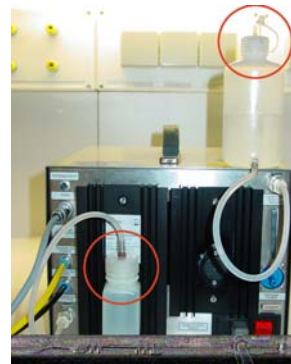

Fig.3: Peripheral accessories
Note: loosen taps of both to enable ventilation (see figure 3).
- Switch on the CPC (red wipe switch at the rear panel – see fig.3); CPC enters into CHARGE MODE (figure 5).
Note: make sure the battery charge fuse is not broken (above wipe switch – see fig.3);